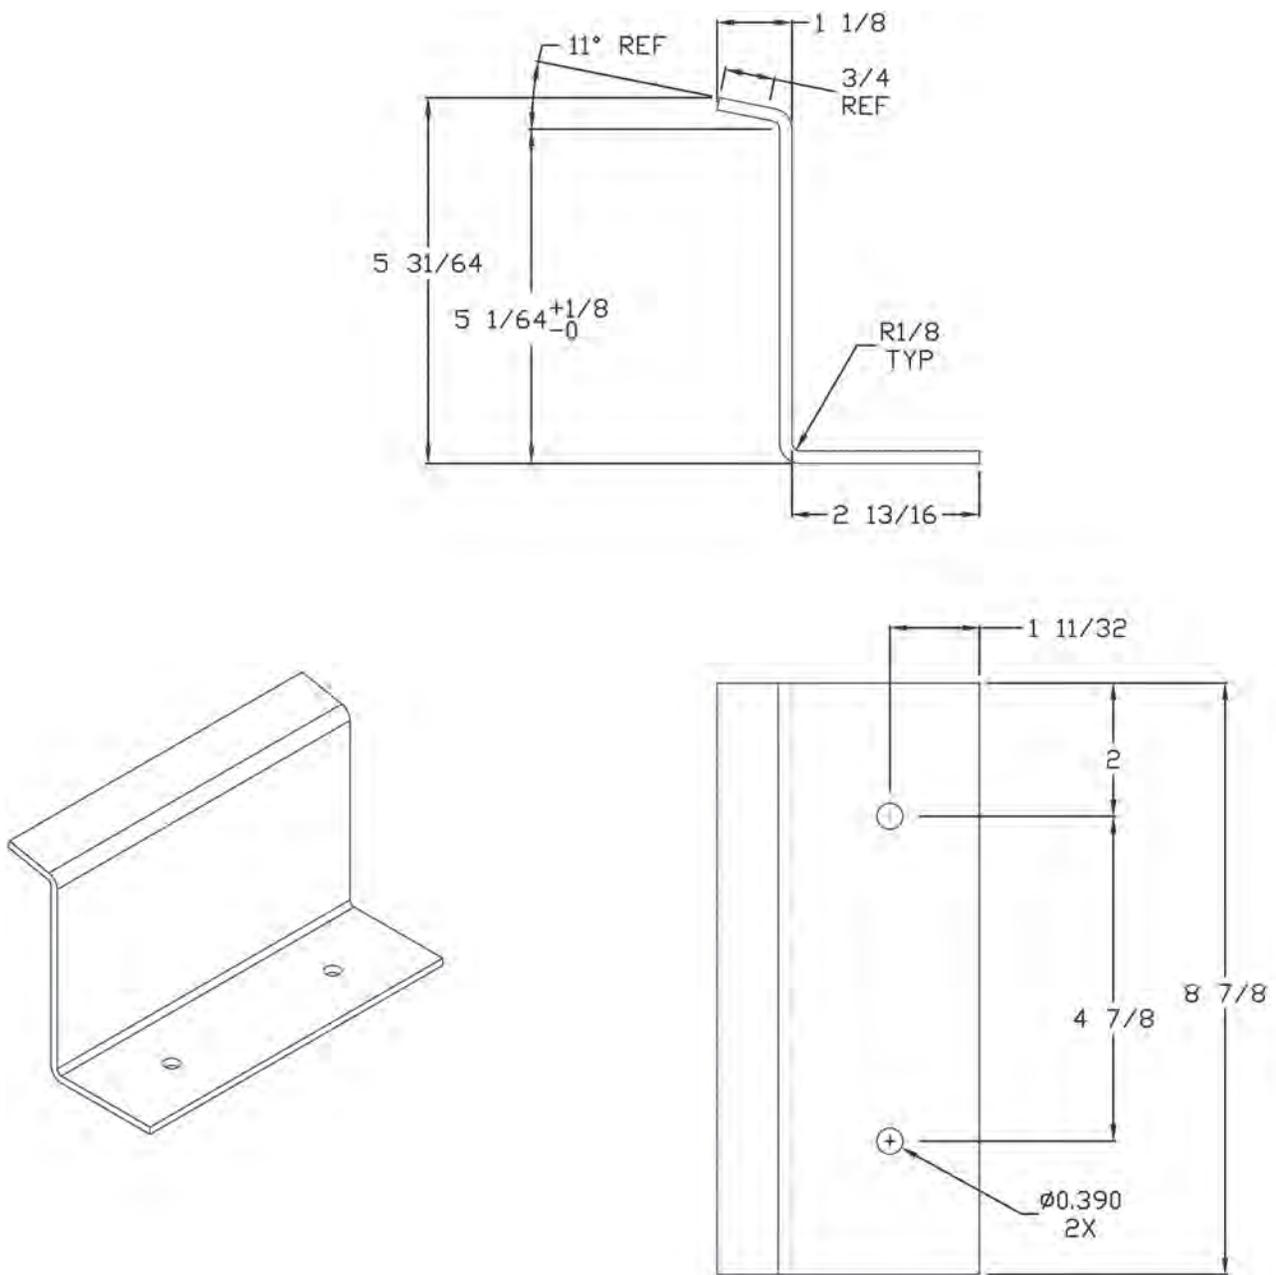

Figure 10
- D. Mounting the Gantry Tray Catch (Figure 10)